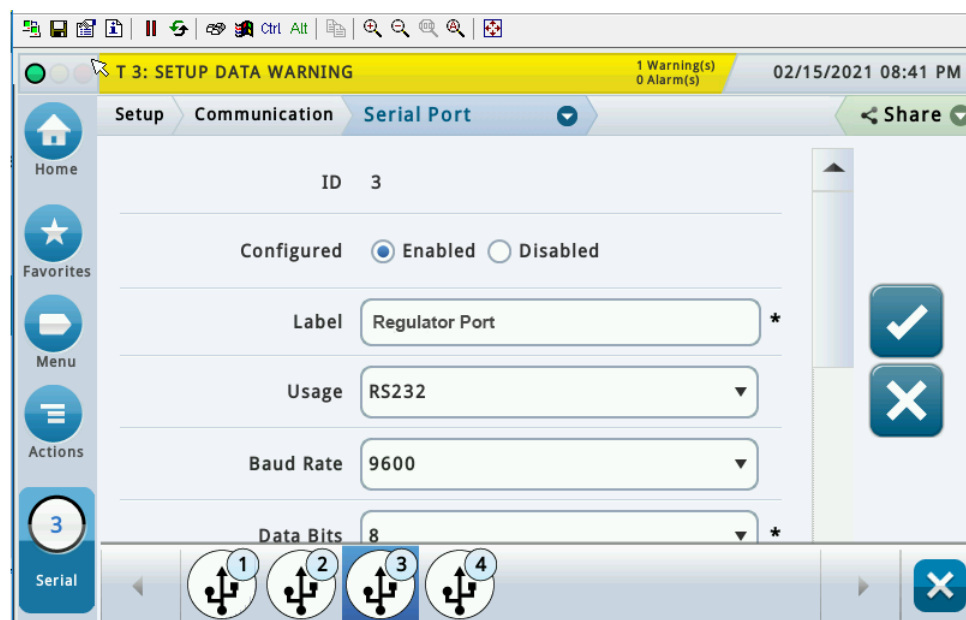

Figure 40. Example Serial Port Setup Screen
1. On the TLS-450PLUS touch Menu>Setup>Communication>Serial Port. Use the required PMC dedicated Comm port, e.g., select serial port 3 (Figure 40).